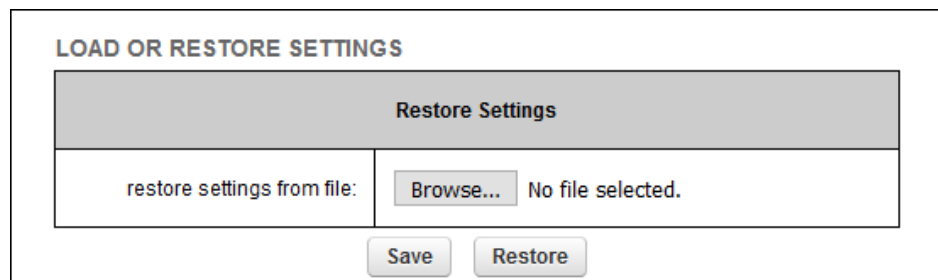

Figure 45. Configurator GUI (LOAD OR RESTORE SETTINGS dialog)
- The **LOAD OR RESTORE SETTINGS** dialog will be shown (Figure 45 \(page 97\)).